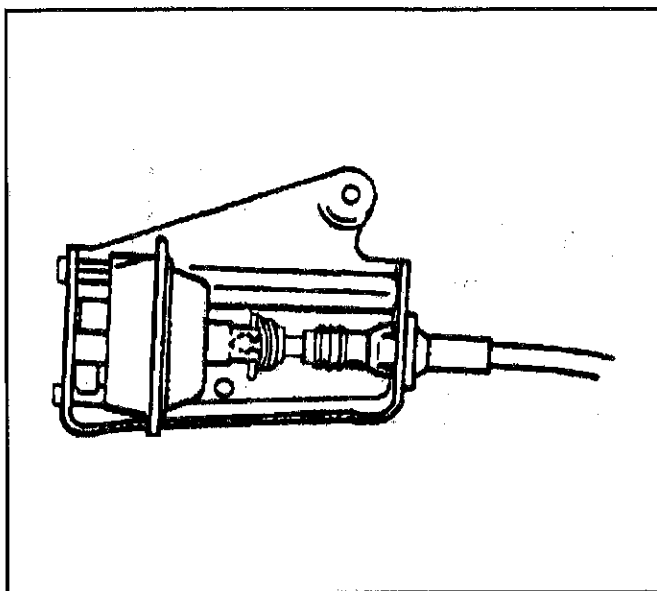

Figure 21—Connecting the Shift Cable to the Vacuum Actuator
- Push the cable into the hole in the bracket. The cable end and ferrule should snap together (Figure 21).